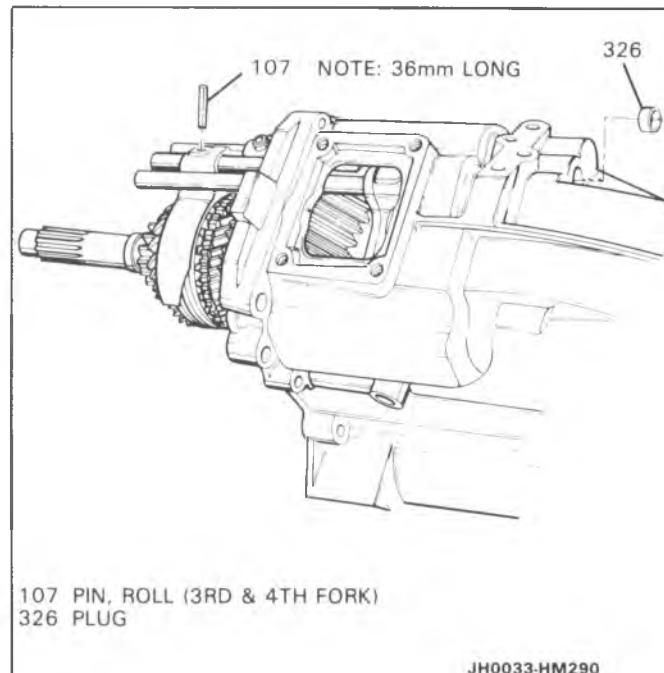

Figure 83 3-4 Fork Roll Pin and Plug Install
28. Roll pin (107) (36mm) (Figure 83).